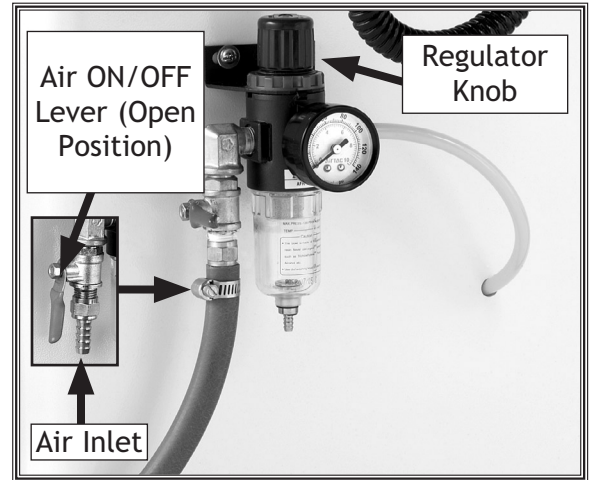

Figure 8. Air hose attached to regulator.
1. Connect the air inlet (**Figure 8**) on the regulator to a compressed air line.
3. Lift the regulator knob (**Figures 8 & 9**) and rotate it until the gauge reads 75 PSI.